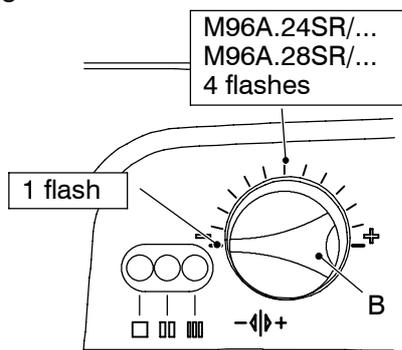

Fig. 16
It's now possible to check the current setting by pressing reset button D for more than 5 seconds. The three lamps F will flash a number of times corresponding to the setting as in Fig. 16 (once for the combination and
- 11 To change the setting turn the knob B on a position corresponding to the boiler model (Fig. 16).